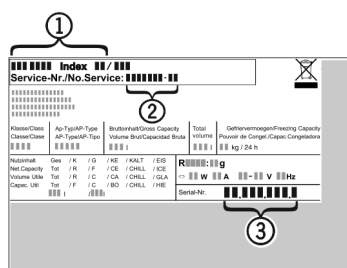

Fig. 9
- ▶ Read the appliance designation *Fig. 9 (1)*, service No. *Fig. 9 (2)* and serial No. *Fig. 9 (3)* off the model plate located inside the appliance on the left-hand side.
- ▶ Notify the customer service, specifying the fault, appliance designation *Fig. 9 (1)*, service No. *Fig. 9 (2)* and serial No. *Fig. 9 (3)*.